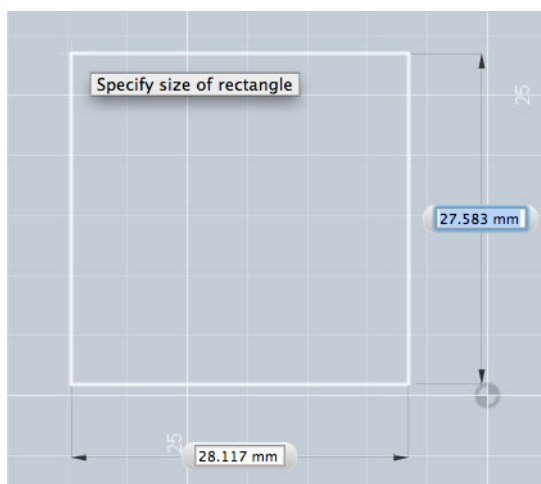

Figure 4-40 A sketch of a rectangle on the main plane
3. Click once in the place where you'd like one corner of the rectangle to be. Move your mouse until the rectangle is the size you want, then click again to finish the shape (Figure 4-40).